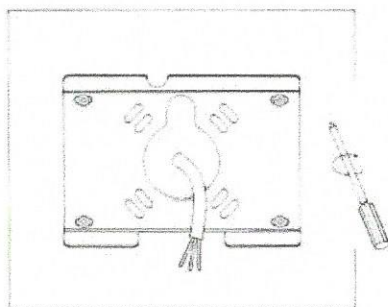

Figure 3
- 3.Align mounting bracket with hole; tighten screws.(Figure 3)